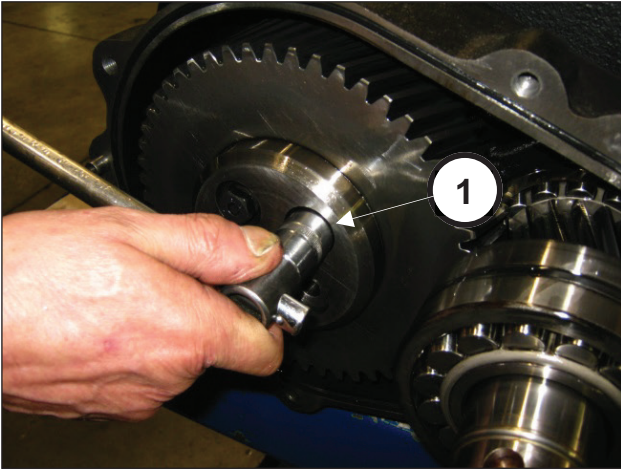
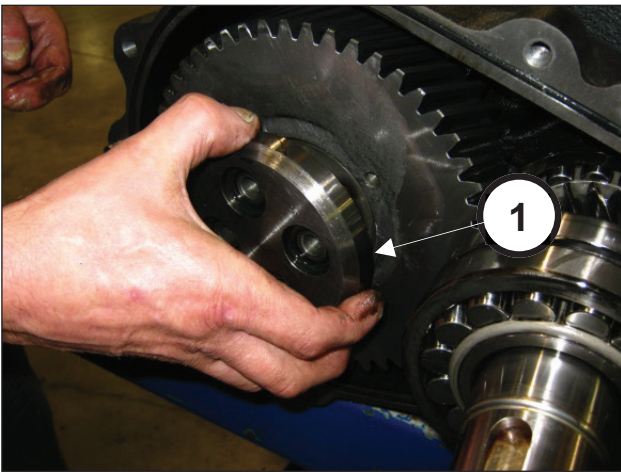

Fig. 10
Fig. 11
On completing this process, remove the reduction gear cover. Unscrew the screws holding in the ring gear (pos. ①, Fig. 10) and remove it (pos. ①, Fig. 11).